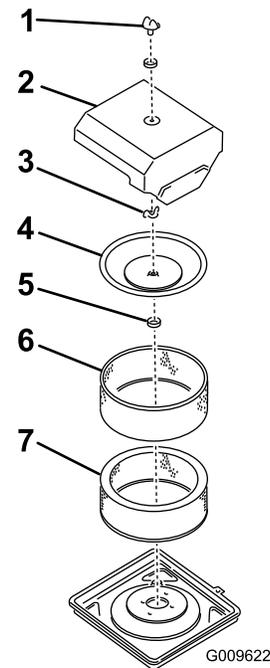

Figure 39
1. Remove the knob, O-ring, and cover (Figure 39).